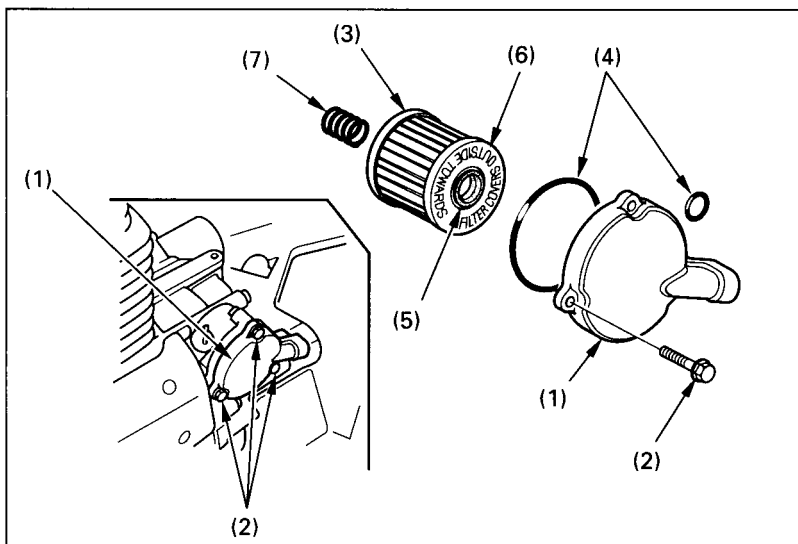

Fig. 4-12 (1) Oil filter cover
(1) Oil filler cap
(2) Oil drain plug
3. Remove the oil filter cover (1) (Fig. 4-12) by removing the bolts (2). Let the remaining oil drain out. Discard the oil filter (3).
4. Check that the oil filter cover O-rings (4) are in good condition and then install a new oil filter. Use only the Honda genuine oil filter or a filter of equivalent quality specified for your model. Using the wrong Honda filter or a non-Honda filter which is not of equivalent quality may cause engine damage.
5. Install the filter with the rubber seal (5) facing out, away from the engine. You will see the "OUTSIDE (TOWARDS FILTER COVER)" mark (6) on the filter body, near the seal.